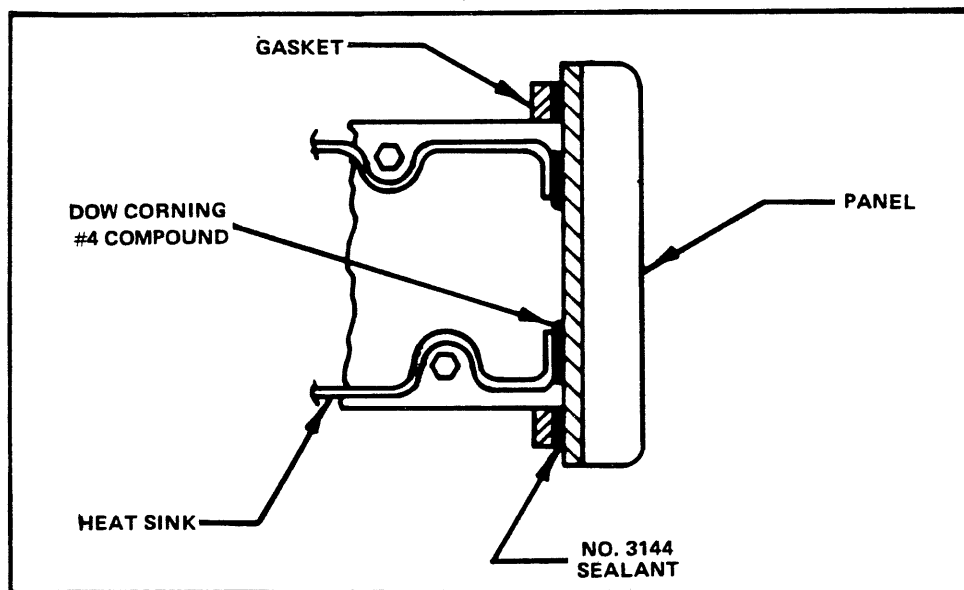

Figure 32. Application of dielectric type compound.
- (3) Apply a film of Dow Corning No. 4. Compound to the mating surfaces of the heat sinks and the Panel and join as shown in Figure 32.
- (4) Clean the gasket with acetone.
- (5) Apply a bead of G-661 silicone grease on and around the gasket and attach it to the Panel as shown in Figure 32.